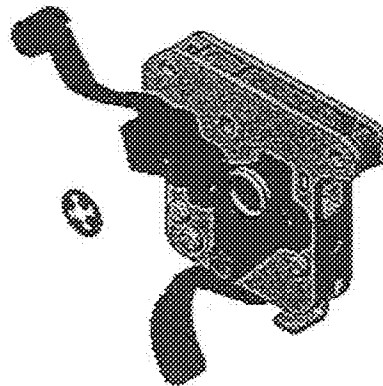

Figure 10
10. Install the safety retainer on the safety pivot pin. Orient the safety retainer so that the legs stick up away from the safety assembly as shown in Figure 10.